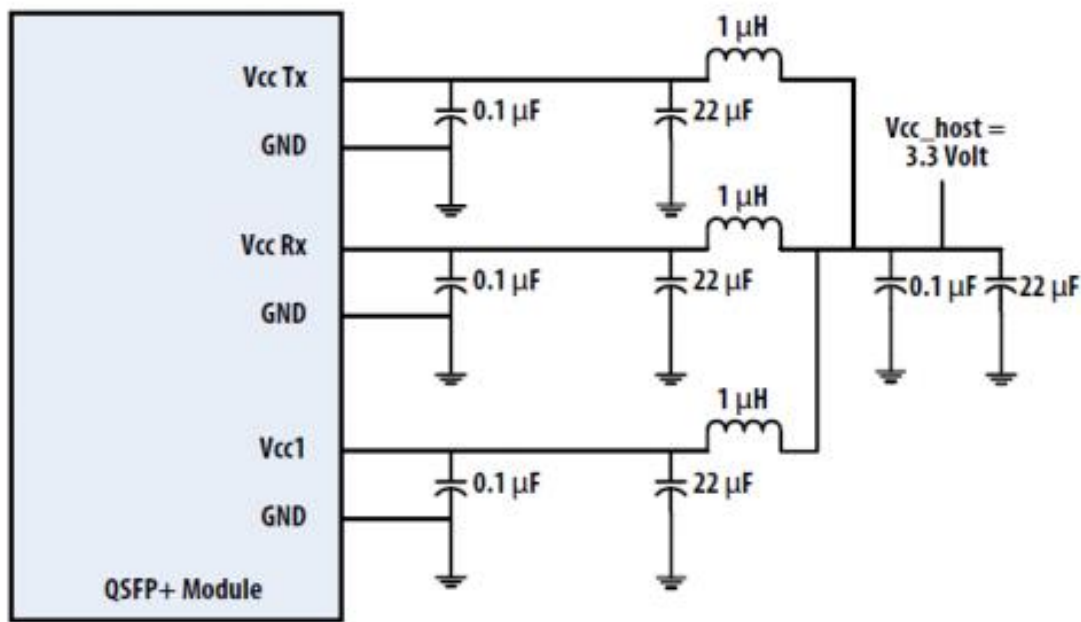

Figure4. Recommended Power Supply Filter
2. VccRx, Vcc1 and VccTx are the receiving and transmission power suppliers and shall be applied concurrently. Recommended host board power supply filtering is shown in Figure 4 below. Vcc Rx, Vcc1 and Vcc Tx may be internally connected within the module in any combination. The connector pins are each rated for a maximum current of 1000mA.